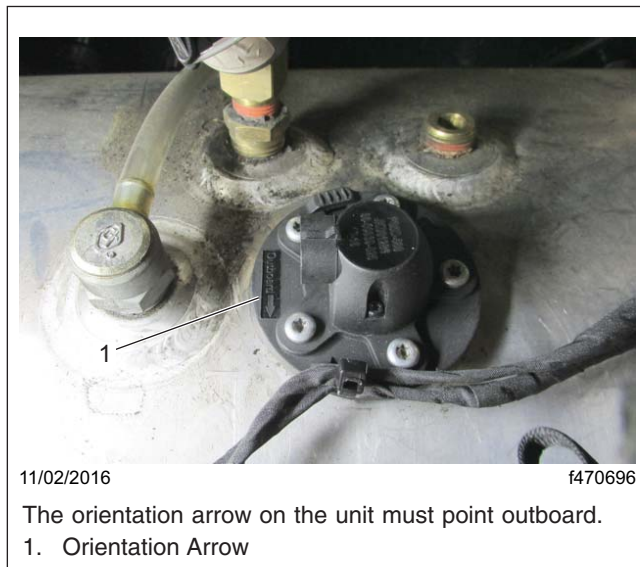

Fig. 7, Sending Unit Orientation
8. Position the fuel-level sending unit and gasket in the hole in the tank, making sure that the orientation arrow on the top of the sending unit is pointing outboard. See **Fig. 7**.